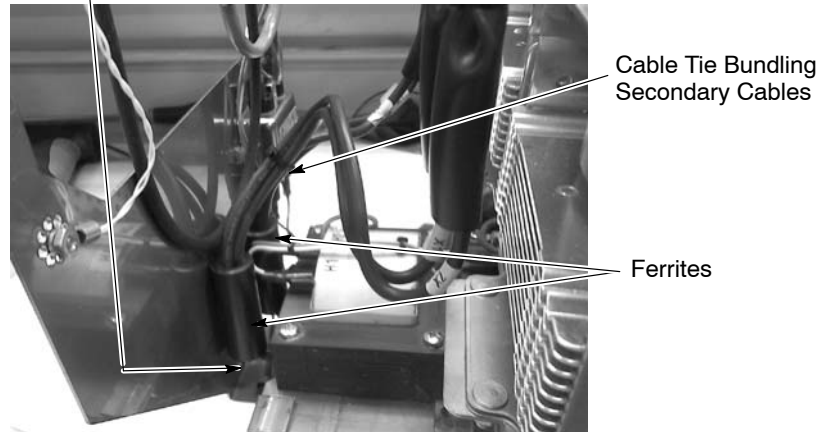

Figure 6-22 Installing Cable Ties on Secondary Cables
9. See Figure 6-22. Arrange the secondary cable ferrites of both transformers as shown. Install cable ties below the ferrites to prevent them from sliding down the secondary cables, then install another cable tie joining both pairs of secondary cables approximately 2 inches (51 mm) above the ferrites.